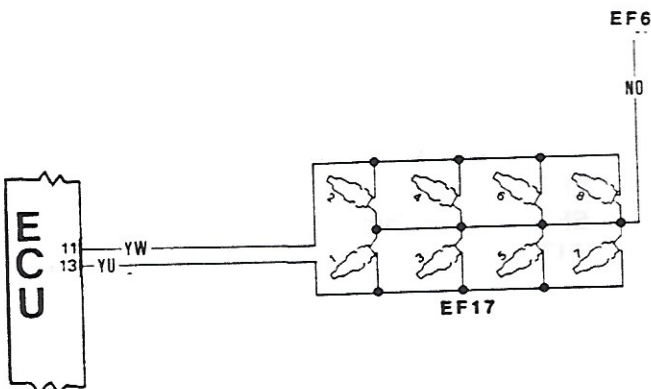

fig.48
The two banks of injectors (See Figure 48) are connected independently to the ECU. The left bank 1, 3, 5, and 7 are connected to terminal 13 via a yellow/blue wire (YU), and the right bank 2, 4, 6, and 8 to terminal 11 via a yellow/white wire (YW). These two wires provide the earth return for the injector which therefore can only open, and remain open, for the length of time dictated by the ECU.